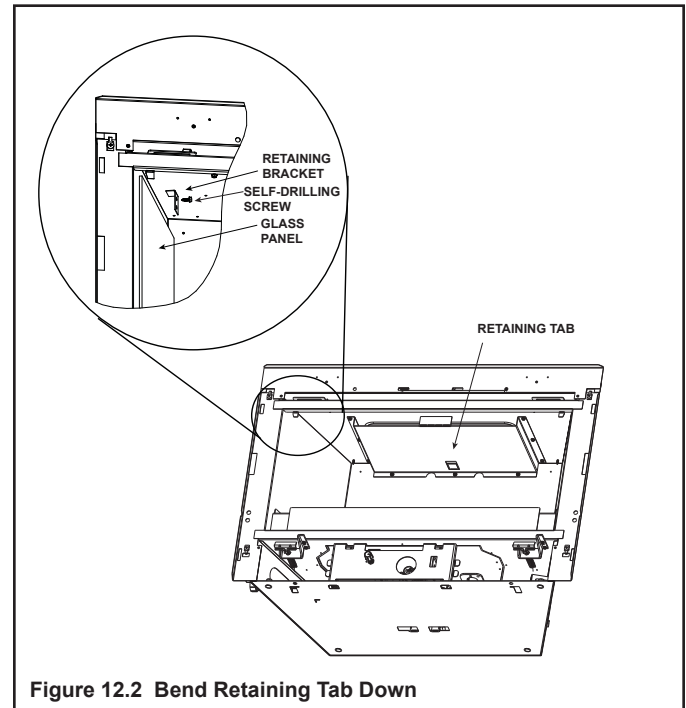
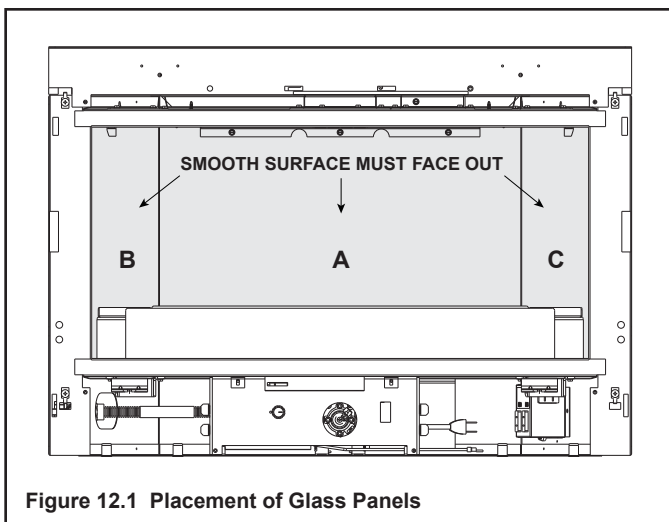

Figure 12.2 Bend Retaining Tab Down
Figure 12.1 Placement of Glass Panels
1. Install back glass panel (see Figure 12.1). Bend retaining tab down to hold back glass panel in position (see Figure 11.2).
2. Install left glass panel (see Figure 12.1). Install retaining bracket with the self-drilling screw provided to hold the left glass panel in position (see Figure 12.2).
3. Install right glass panel (see Figure 12.1). Install retaining bracket with the self-drilling screw provided to hold the right glass panel in position (see Figure 12.2).